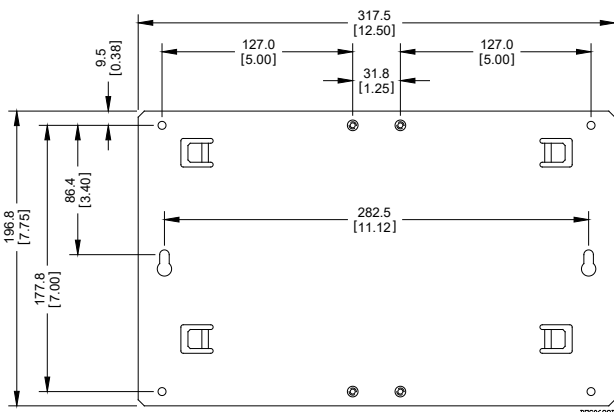

Figure 5. Panel Dimensions
- Main unit with expansion rack mounted on adaptor panel.** Position as desired on the enclosure mounting plate and locate mounting holes on the plate using the FB107 assembly as a template. See Figure 5 for adaptor panel dimensions. Drill and tap mounting holes in the plate with an 8-32 UNC thread tap. Position the FB107 assembly over the tapped locations and attach to the plate with the four 8-32 UNC x 1.00 inch-long screws provided. Torque the four mounting screws to approximately 1.1 to 1.4 N-m.